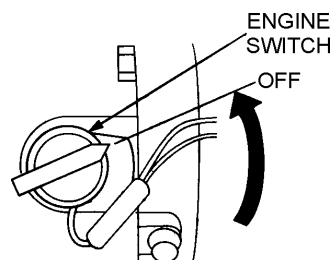

Figure 15. Engine ON/OFF Switch (OFF)
2. After the engine **cools**, turn the engine ON/OFF switch to the **"OFF"** position (Figure 15).